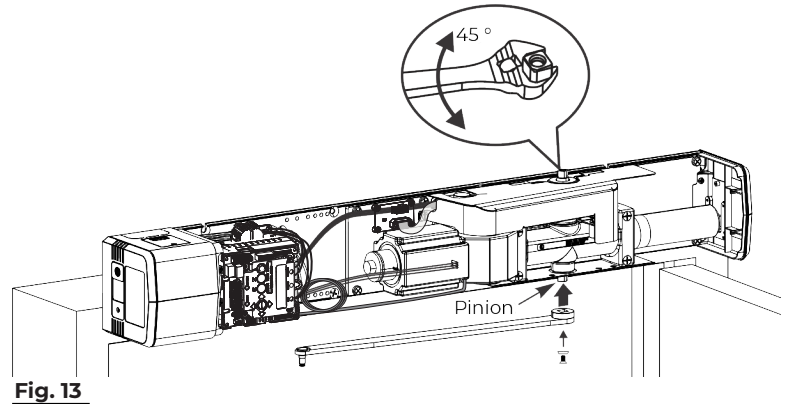

Fig. 13
2. Using an adjustable wrench, rotate top pinion 45 degrees toward door hinge. You will feel resistance from spring. (Fig. 13)
3. **While holding pinion at 45 degrees**, slide arm on bottom pinion parallel to frame as shown. (Fig. 13)
4. Secure arm to pinion with 1/4-20 x 1/2" screw and countersunk patch washer. (Fig. 13)